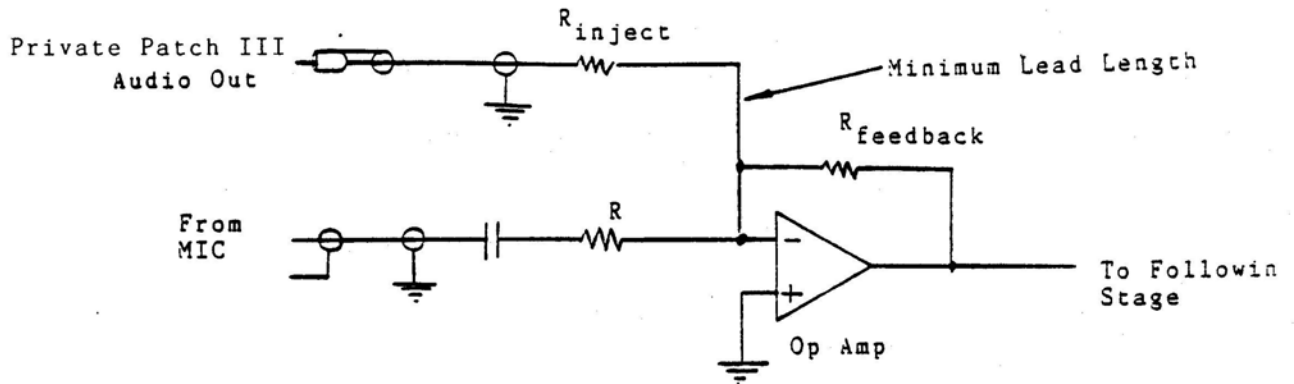

Figure 5
2. Audio out. This connection is not necessarily straight forward. **Private Patch III** should be connected in a fashion that will not load down the local microphone. If the radio has a point provided to inject tone audio from an external encoder, try injecting the **Private Patch III** audio here. Since no two radios will be alike we can only suggest injection interfaces in general terms. Refer to figure 5. Many radios use integrated operational amplifiers as microphone pre-amps. If the circuit resembles figure 5 try injecting the audio through a resistor (R_{inject}) into the summing node as shown. R_{inject} should be equal in value to MIC input resistor "R". The added resistor must be physically adjacent to the op amp.